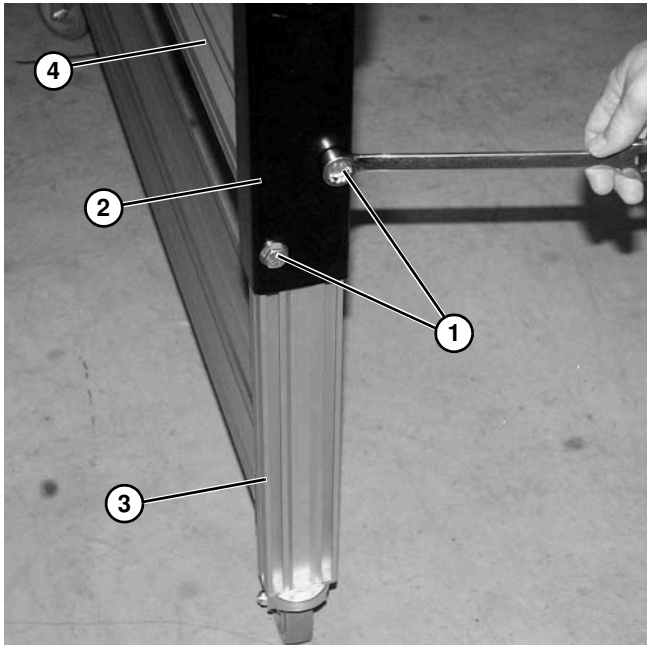

Figure 9
1. To adjust height, loosen two screws (**Figure 9, item 1**) on upper bracket (**Figure 9, item 2**) on both sides of stand.
2. Raise or lower stand leg (**Figure 9, item 3**) to the required height. Level stand from side to side by using a level on crossmember (**Figure 9, item 4**).
Failure to secure screws (Figure 9, item 1) may cause conveyor sections to drop down causing severe injury.
TIGHTEN SCREWS (Figure 9, item 1) AFTER ADJUSTMENT.
3. When correct height on each stand leg (**Figure 9, item 3**) is reached, tighten screws (**Figure 9, item 1**) on both sides of stand.